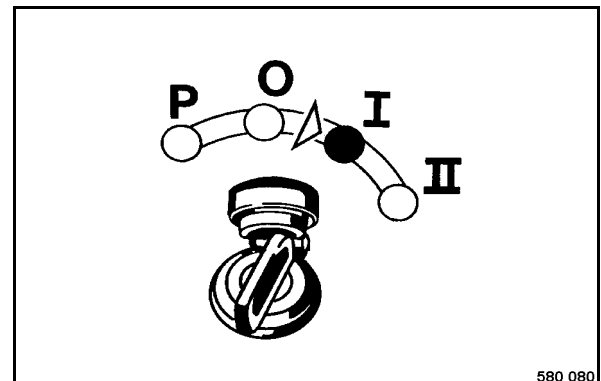

Fig. 90
- Turn the ignition key (Fig. 90) to position "I". The BTM plus/prof performs a self-test.